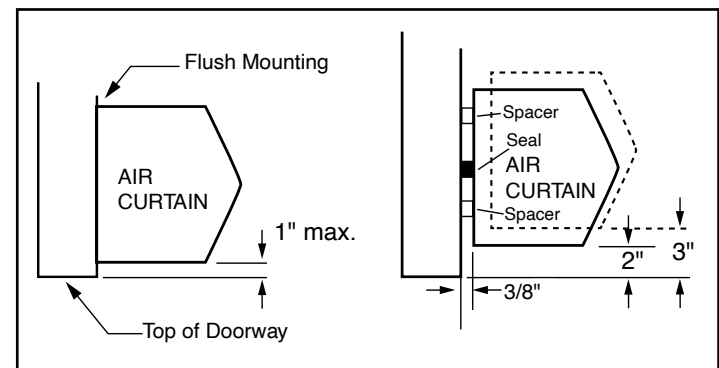

FIGURE 2 - Positioning of Air Curtain
B. For optimum performance, the bottom of the unit (discharge nozzle) should be no more than 1" above the top of the opening with the unit mounted flush to the wall. If the unit must be mounted higher, it must be **spaced out** from the wall $\frac{3}{8}$ " for every inch the unit is above the opening. Any void between the air curtain and the wall should be sealed along the full length of the unit. **See FIGURE 2.**